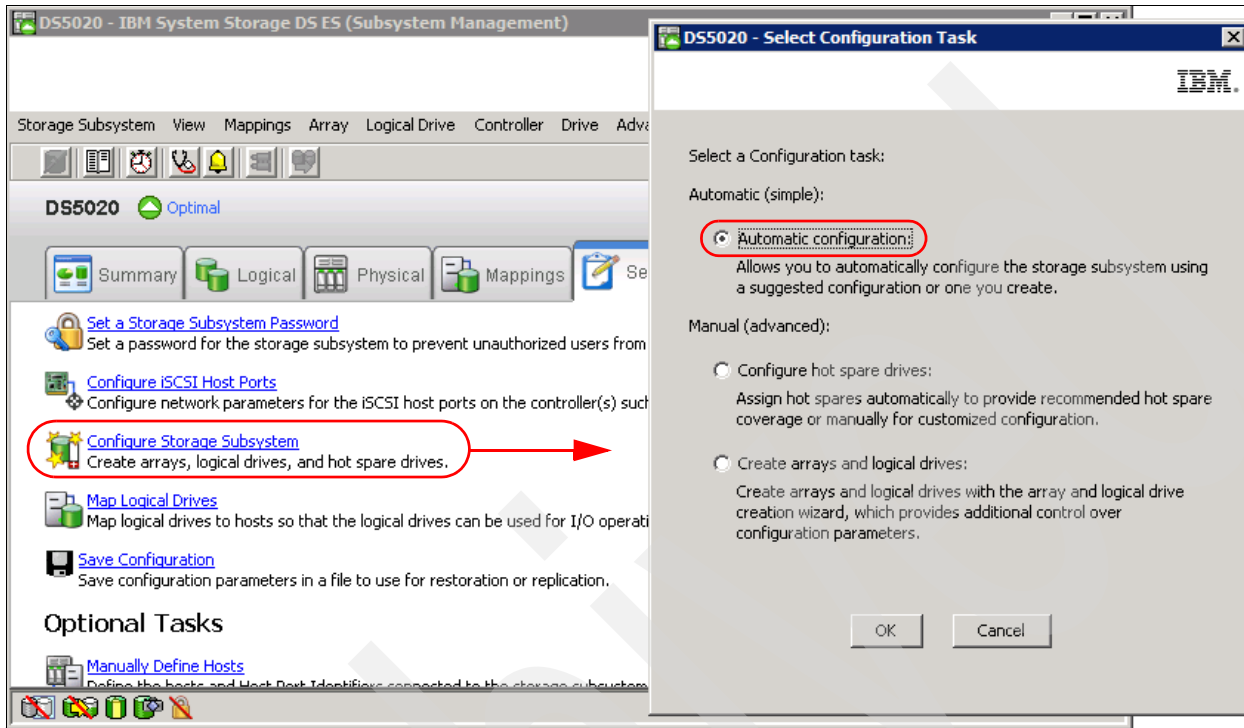

Figure 4-43 Automatic configuration
1. Select **Configure Storage Subsystem** → **Automatic Configuration** → **OK**, as shown in Figure 4-43.